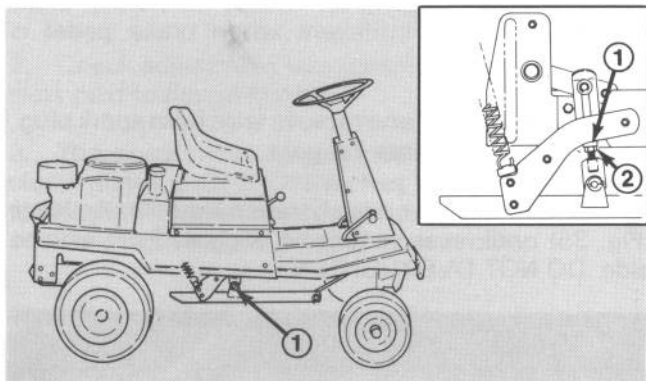

Figure 31
- A. Block up deck and remove cotter pin and washer securing link to lift bar (Fig. 31).